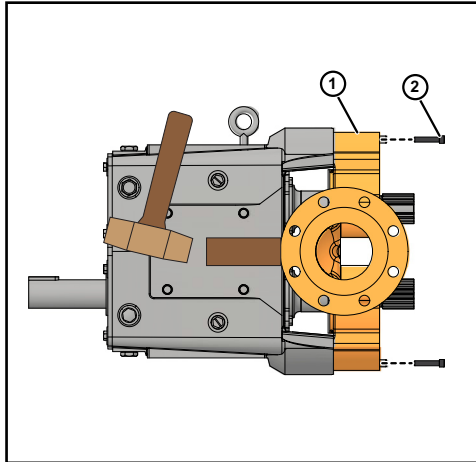

Figure 36 - Remove Cap Screws and Pump body
2. Remove body socket head retaining bolts (2). Using a block against the base of the ports, tap the block, alternating sides, to drive the fluid head off of the locating dowel pins, and slide body (1) off shaft, as shown in Figure 36.